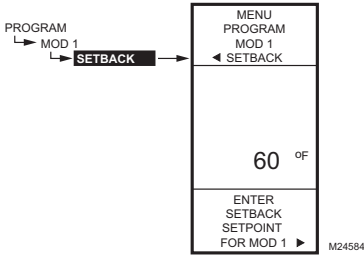

Fig. 60. Program - Setback.
- To program the Setback temperature without Reset, see Fig. 60 on page 26.